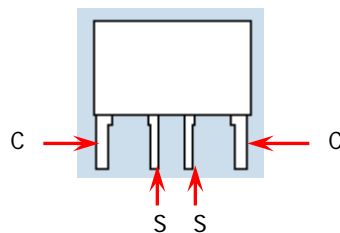

Figure 3-3 4-wire Current Sampling Resistor
- The  $R_M$  in the figures above is a 4-wire current sampling resistor (please select current sampling resistor with suitable resistance according to the test item and the channel to be tested). As shown in Figure 3-3, **C** represents the current measurement terminal and **S** represents the voltage measurement terminal. During the test, please make the correct connections.